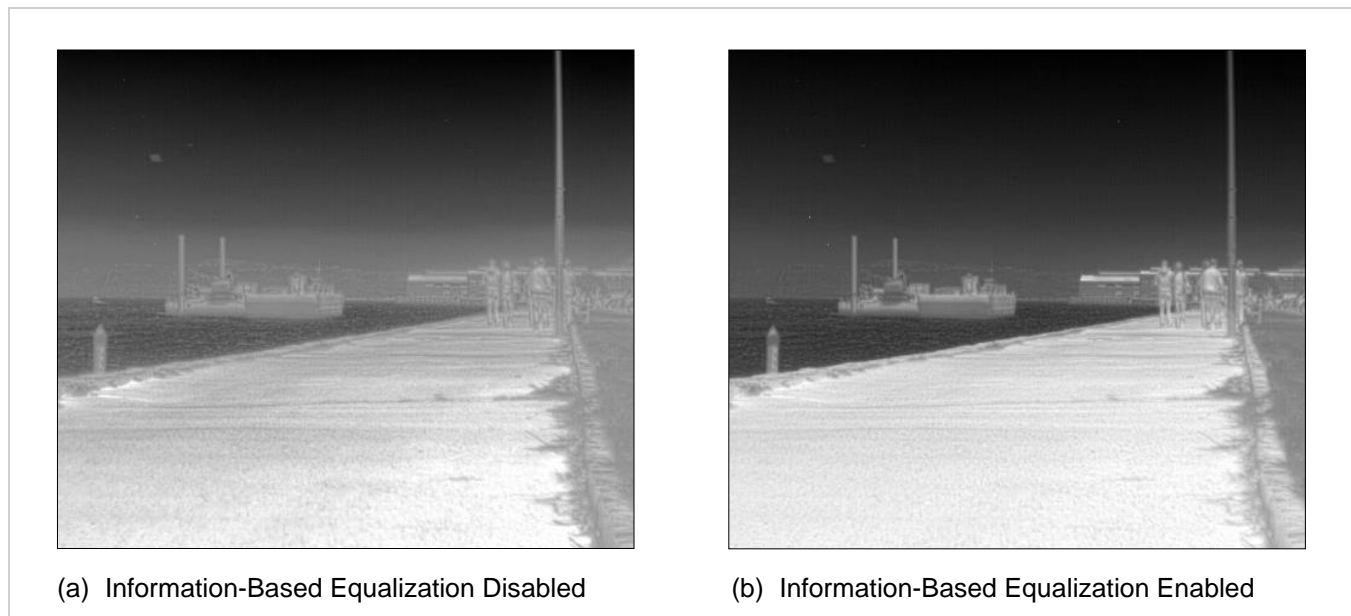

FIGURE 11: EXAMPLE IMAGES SHOWING BOTH HEQ AGC MODES
The Normal AGC mode is classic histogram equalization (HEQ). The information-based equalization enable/disable determines the weighting of pixels when the histogram is generated in Normal AGC mode. Many scenes are comprised of a small number of objects superimposed against a fairly uniform background (or perhaps two backgrounds such as sky and ground). In classic HEQ, the background dominates the histogram for such scenes and is therefore allocated a large percentage of the 8-bit gray shades, leaving few for the foreground details. In Information-Based Equalization Enabled mode, the scene data is segregated into details and background using a High-Pass (HP) and Low-Pass (LP) filter. Pixel values in the HP image are weighted more heavily during the histogram-generation process, resulting in detail being allocated more 8-bit gray shades and thus benefiting from higher contrast in the output image. When Information-Based Equalization is disabled, every pixel is weighted equally. The factory-default value of **AGC Mode** is “Normal” mode with “Information-Based Equalization” disabled. Figure 11 shows an example image for both modes. With Information-Based Equalization disabled, the sky and pavement are assigned more gray shades, whereas when enabled, the ship and people receive more emphasis. Note that not all of the images shown in this section of the datasheet were acquired using a Neutrino LC camera.